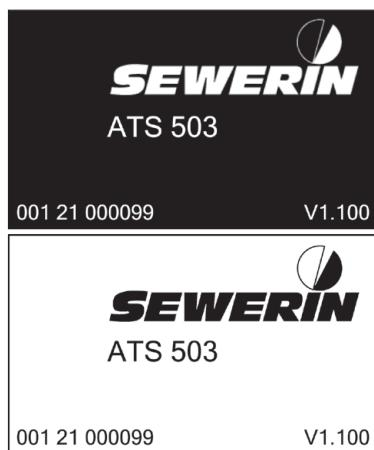

Fig. 10: Sequence of start images during switch-on process
- a) A sequence of start images (fig. 10) appears.
The settings are made after the start screens (fig. 10).
If there is a significant difference, the gas assignment (fig. 24) is displayed again after the start images (fig. 10). The test gases can then be re-assigned, if required.